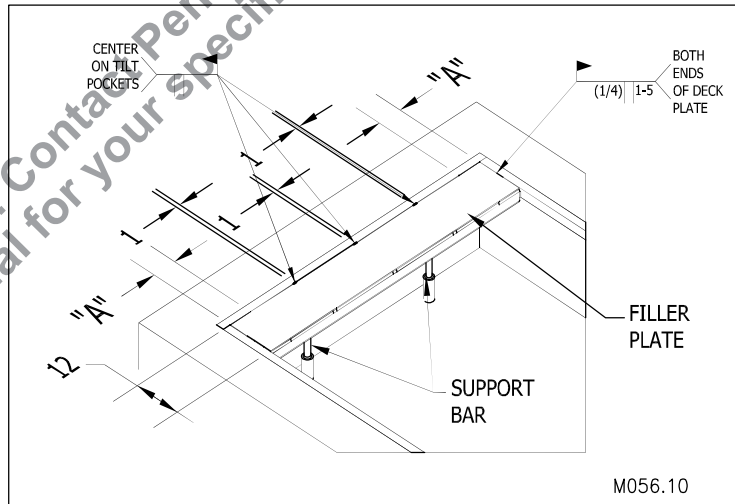

Figure 28: Installing the filler plate
11. — Place the filler plate on top of the rectangular tubes as indicated in "Figure 28: Installing the filler plate" on page 25 making sure the filler plate sits flat and square to the rear and side curb angles.
12. — Weld 1 inch butt weld at the mark off locations on the deck plate as indicated in "Figure 28: Installing the filler plate" on page 25.